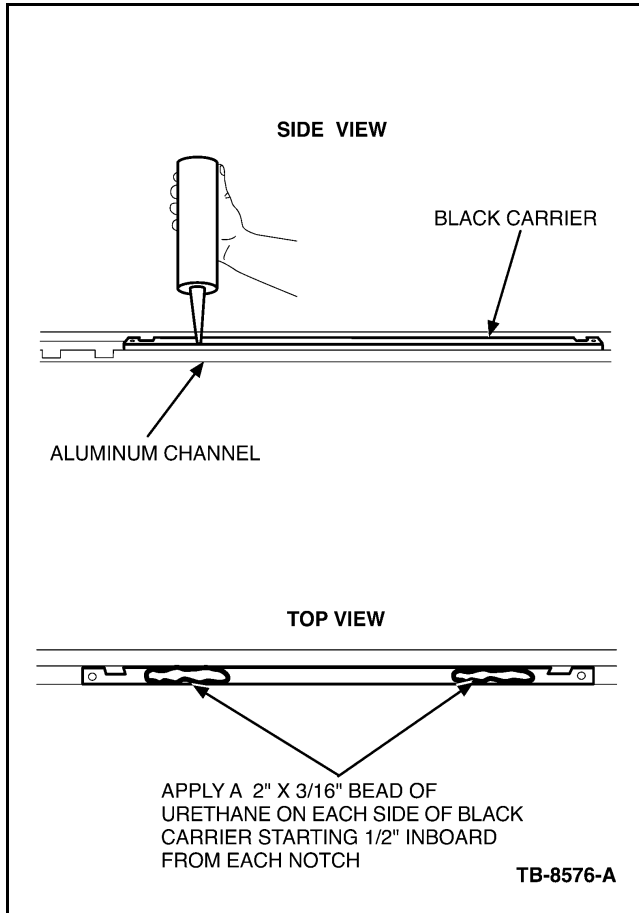

Figure 8 - Article 06-15-5
18. Apply a 2" x 3/16" (5 cm x 5 mm) bead of urethane adhesive in the carrier starting 1/2" (1.3 cm) inboard from notches in carrier (Figure 8).